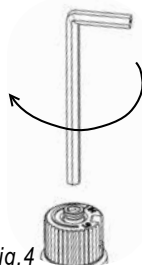

Fig. 4
- 9) Using the Allen wrench as shown in Fig.4, rotate the screw clockwise until snug, do not overtighten.